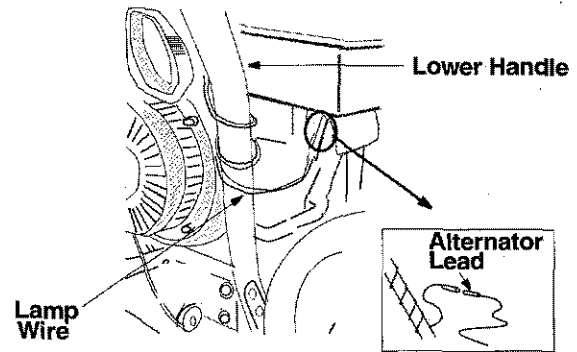

Figure 6
- Unwrap the headlight wire which is attached to the headlight beneath the handle panel. Wind the headlight wire around the right side of the lower handle until excess slack is removed. See Figure 6.
- Plug the wire from the headlight into the alternator lead coming from the right side of the engine, underneath the fuel tank. See Figure 6 inset.